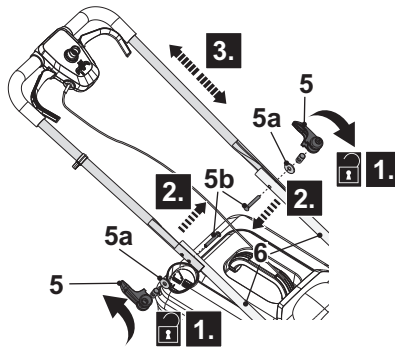

Fig 13
- Hold the upper handle bar (4) with one hand.
- Release the clamp levers (5) anti-clockwise (Fig. 13, step 1) on both side of the upper handle bar (4), then take off the clamp lever (5), the washer (5a) and the mounting bolt (5b) afterwards (Fig. 13, step 2).
- Choose and align the other mounting hole on the upper handle bar (4) with the mounting hole of the lower handle bars (6) (Fig. 13, step 3).
**NOTE:** Ensure the upper handle bar (4) is assembled on the same height level on both lower handle bars (6).
- Attach the washer (5a) and screw in the clamp lever (5) clockwise, lock it by folding up the clamp lever (5) towards the handle bar. If clamp lever (5) cannot be folded, loosen it and fold again. If it is too loose, tighten it by swinging the clamp lever (5).
- Do it again on the other side. Make sure that the inter-connection cord (18) run on the upper side of the handle bars (4, 6).